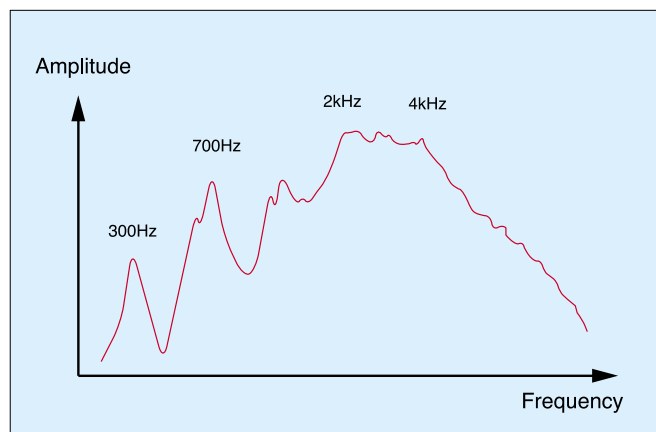

Figure 14: A measurement of a violin's spectrum when played with the bow.
bridge. This, as we have already seen, starts its life as a sawtooth wave *rich* in harmonics, and is then further shaped by the resonant response of the bridge itself. This harmonically rich energy interacts with the body to generate a different response, and it is this that we must recreate if we wish to synthesize a bowed instrument accurately (see Figure 14, above).
- Secondly, the shape of the spectrum in Figure 14 is important. The timbre of a violin is strongly linked to the dominant body resonances in the region of a few hundred Hertz, as well as the broad combination of resonances in the region of 2kHz to 4-5kHz or thereabouts. Without these (or their equivalents for the viola or cello) the sound will not be realistic.